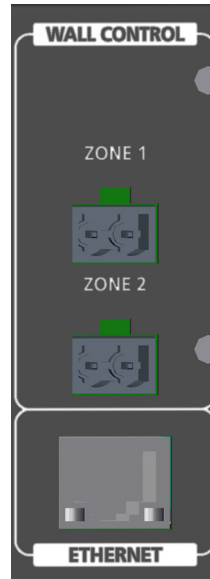

Figure 8. Wall Control & Ethernet
1. The PREZONE2 is compatible with the D-DIWAC and DIWAC wall controls. Connect wall controls from the appropriate zones via connectors on the back panel as shown in Figure 8.
1. See Figure 8. Connect the PREZONE2 to a network via a router or directly to an individual device with CAT5e or better cable.